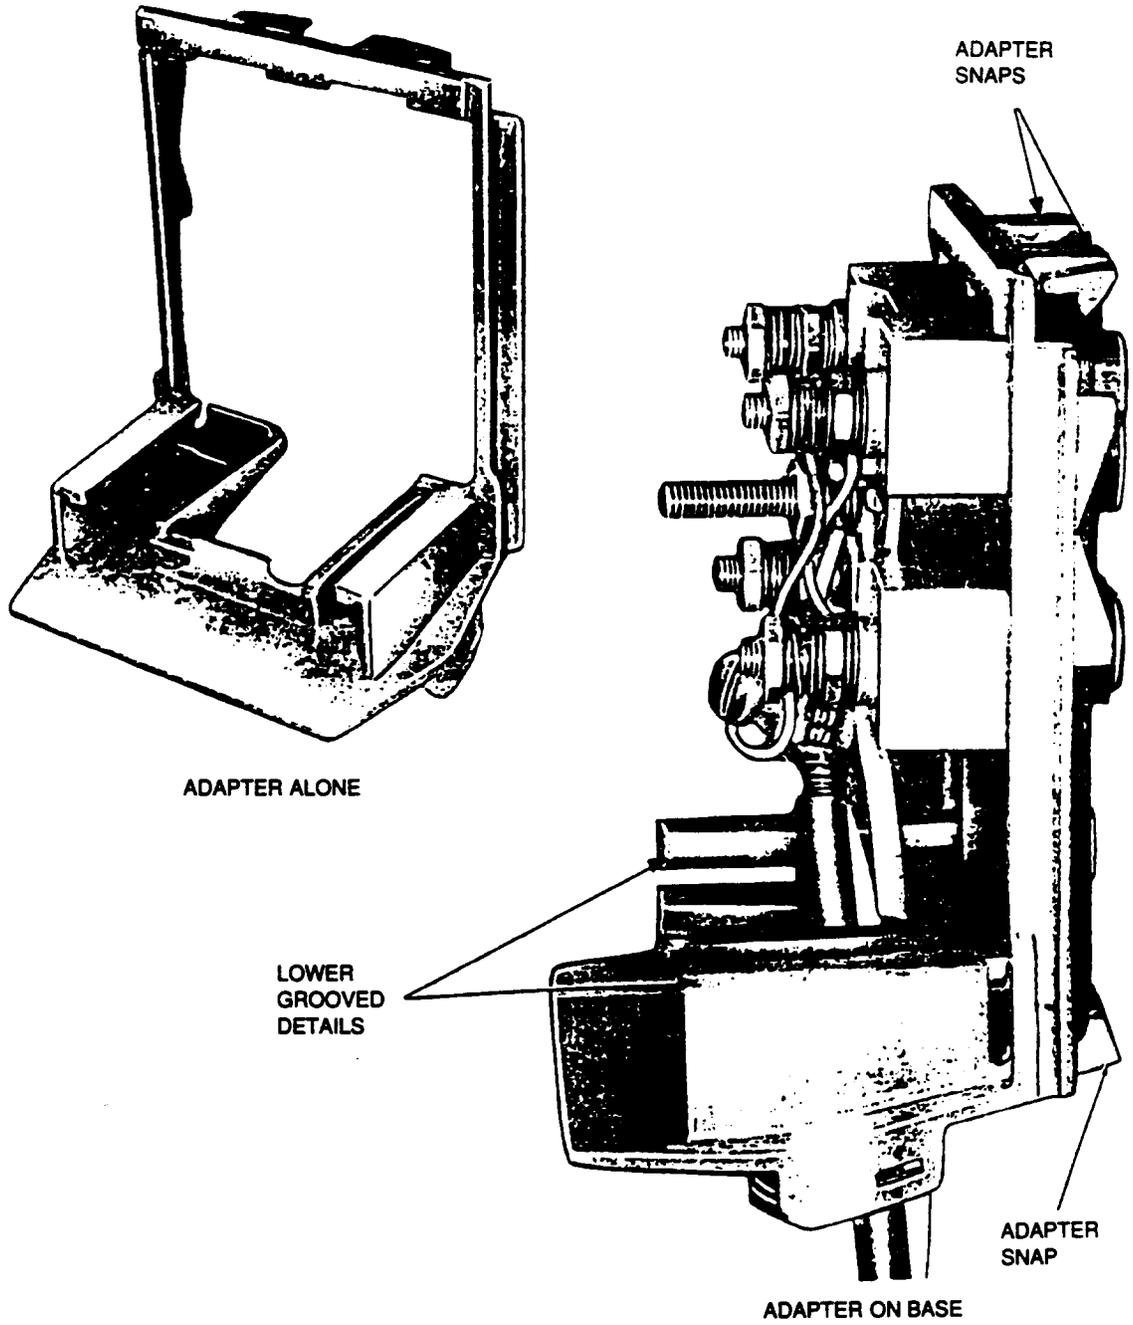

Figure 5. T3-400 Adapter
3.07 The T3-400 adapter (Figure 5) is an injection molded part, utilized to retrofit a TII 325/326 protector. It is equipped with adapter snaps and lower grooved details for easy installation onto the TII base.